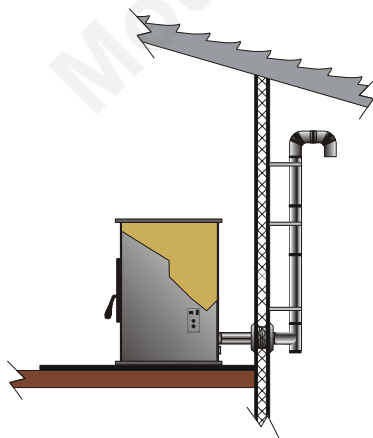

Figure 22
- 🔥 **HORIZONTAL, OUT THE WALL, THEN VERTICAL** to a minimum of 5 feet, into a 90-degree elbow and terminating with a 45-degree elbow pointed downward. Figure 22.